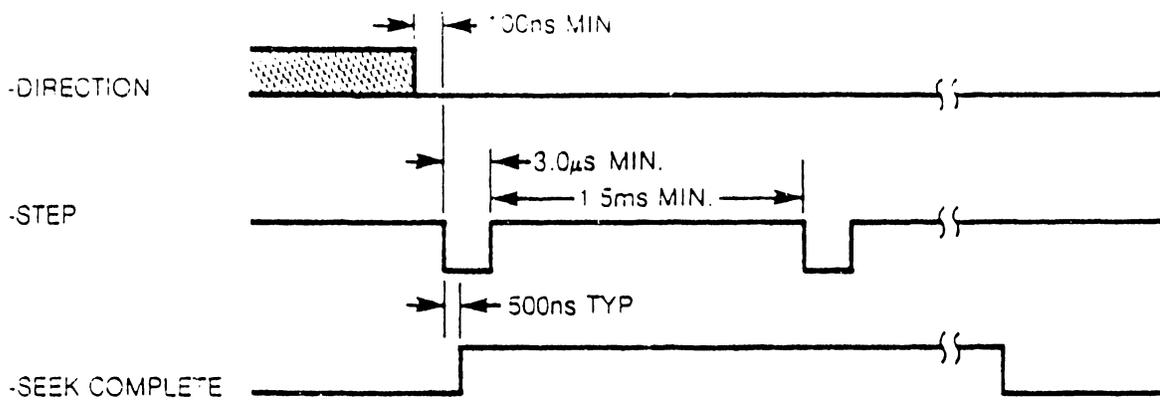

Figure 7 Normal Step Mode
- Normal Step Mode-In this mode, the read/write heads will move at the rate of the incoming step pulses. The minimum time between successive steps is 1.5ms, with a minimum pulse width of 3.0μs. Refer to Figure 7.